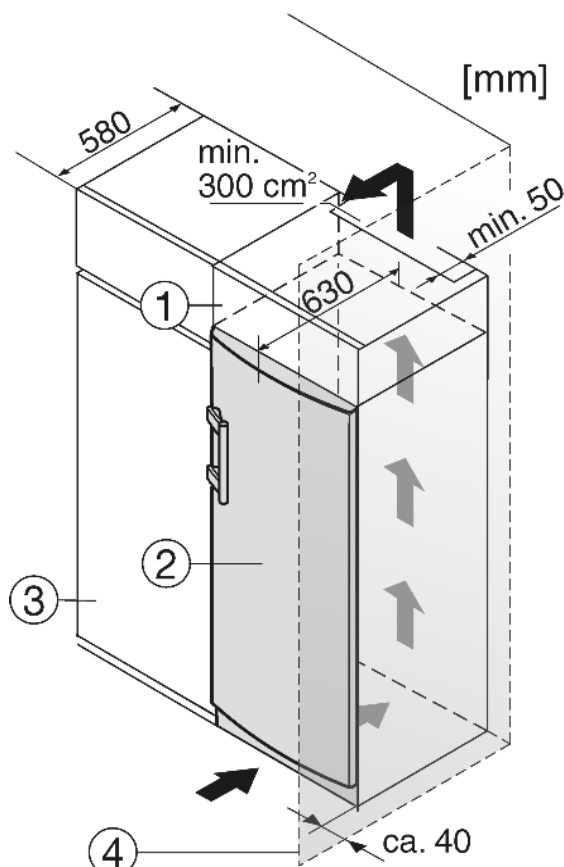

Fig. 9
When inserting the appliance into a row of kitchen units (max. depth 580 mm), the appliance can be installed directly next to the kitchen unit Fig. 9 (3). The appliance door projects relative to the front of the kitchen unit by 34 mm at the side and by 50 mm in the middle of the appliance. It can be opened and closed perfectly as a result.
If the appliance is installed with the hinges next to a wall Fig. 9 (4), the distance between appliance and wall has to be at least 40 mm. This corresponds to the projection of the handle when the door is open.